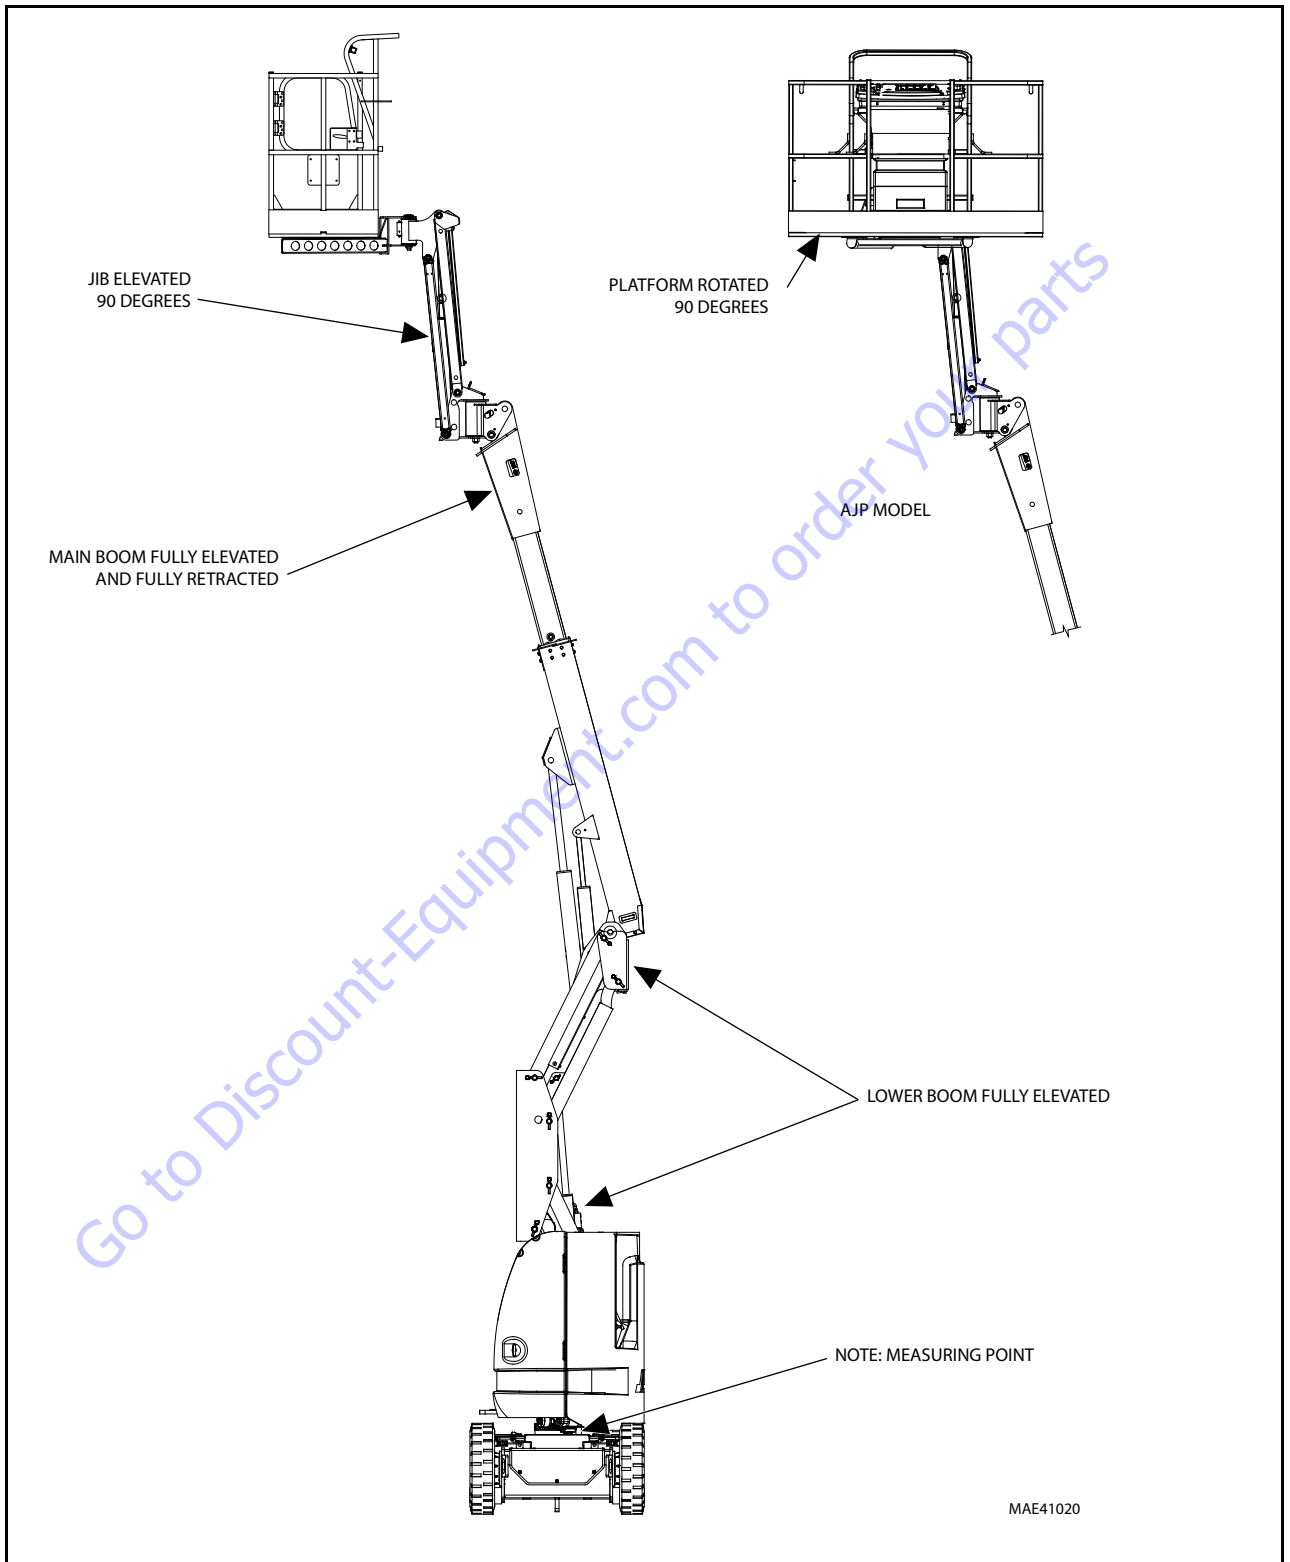

Figure 3-27. Swing Bearing Tolerance Boom Placement
- b. At the positions indicated on Figure 3-27., Swing Bearing Tolerance Boom Placement try and insert the 0.0015" feeler gauge between the bolt head and hardened washer at the arrow indicated position.
1. With the boom positioned over the side of the machine, the Upper Boom horizontal with telescope fully extended and Tower Boom raised half way (approx 37°) (See Figure 3-27., Swing Bearing Tolerance Boom Placement), using a magnetic base dial indicator, measure and record the distance between the swing bearing and turntable. Figure 3-29., Swing Bearing Tolerance Measuring Point.
2. At the same point, with the boom positioned over the side of the machine, the Upper Boom fully elevated and the Mid/Lower Boom fully elevated, Figure 3-27., Swing Bearing Tolerance Boom Placement using a magnetic base dial indicator, measure and record the distance between the swing bearing and turntable (See Figure 3-29., Swing Bearing Tolerance Measuring Point).